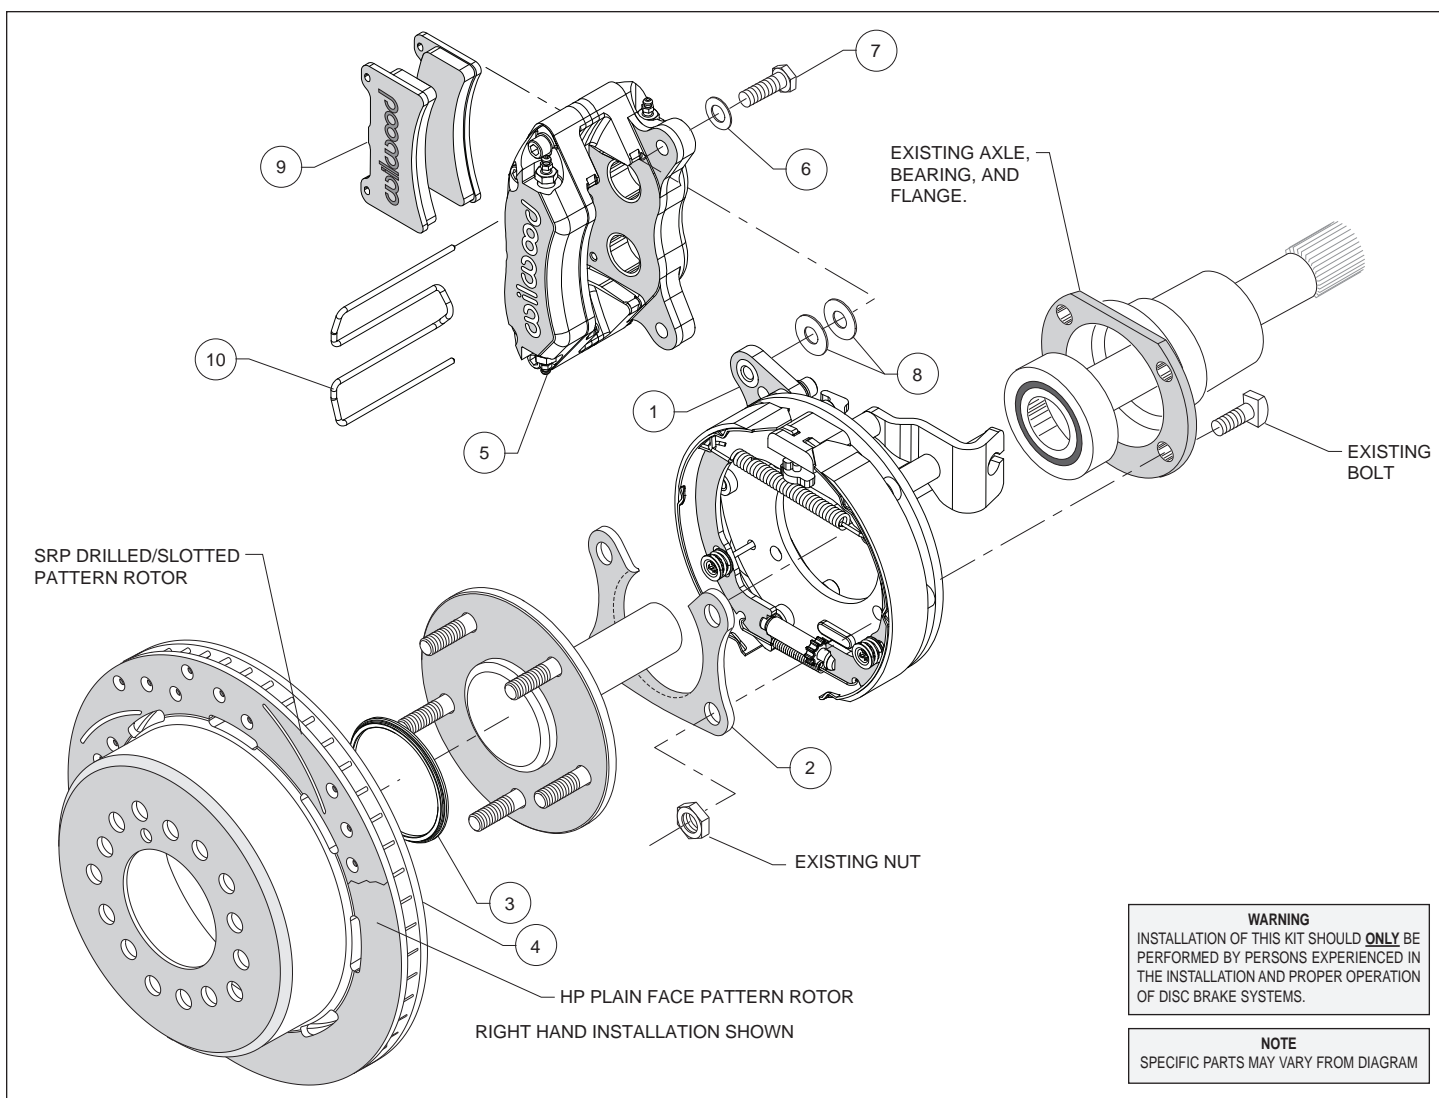

Figure 1. Typical Installation Configuration
Assembly Instructions (numbers in parenthesis refer to the parts list, and Figure 1 on the preceding pages): **CAUTION:** All mounting bolts must fully engage clinch nuts. Be sure to check that all bolts are either flush or protruding through flanged side of clinch nut after shimming, Figure 5.
- Orient the bracket assembly (1) as shown in Figure 1 and Photo 1 and slide it onto the axle. Insert the axle and bracket into the axle housing. Ensure that the bracket assembly backing plate fits flush against the axle housing flange.
- Install the bearing retainer (2) with the opening pointing upward and the lip facing inward (toward the bearing), as shown in Figures 1 and 4, and Photo 2. Secure retainer and bracket assembly to the axle housing flange using the Original Equipment Manufacturer (OEM) bolts and nuts, Figure 1. Apply red *Loctite*® 271 to the OEM bolt threads and torque to OEM specifications.
•Slide the rotor registration adapter (3) onto the axle register on the axle flange with the smaller O.D. facing toward the rotor/hat (4), Photo 3. Align the correct hole pattern in the rotor/hat with the stud pattern on the axle flange and slide into place, Figure 1 and Photo 4. **NOTE:** The rotor/hat must fit flush against the axle flange or excessive rotor run out may result. Install three lug nuts (finger tight) to keep the rotor/hat assembly in place while continuing with the installation. **NOTE:** Some OEM and after market axles come with stud sizes larger than 0.50" diameter. Verify stud size and have a qualified machine shop drill the bolt circle of the hat/rotor to the correct stud size, if necessary.
•**NOTE:** Please reference the caution statement at the beginning of the assembly instructions. Mount the caliper (5) onto the caliper mounting bracket (1) using bolts (7) and washers (6), as shown in Figure 1. Initially place two .035" thick shims (8) on each bolt between the caliper and the bracket, Photo 5. **NOTE:** For forward mounted calipers only, the cable bracket must be temporarily removed to allow access to the upper caliper mount bolt. Remove the two flathead bolts holding the cable bracket to the parking brake backing plate, Photo 6. **DO NOT mix the bolts or spacers.** They must be reinstalled in the same locations as they were removed.